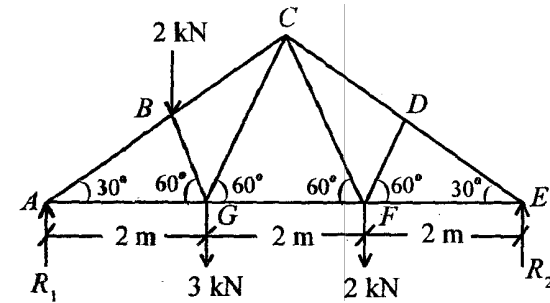

Fig. 5
- (b) A truss of 6 m span is loaded as shown in Fig. 5. Determine the forces in the members AB, BC, AG, DE, EF and BG of the truss using method of joints. 15